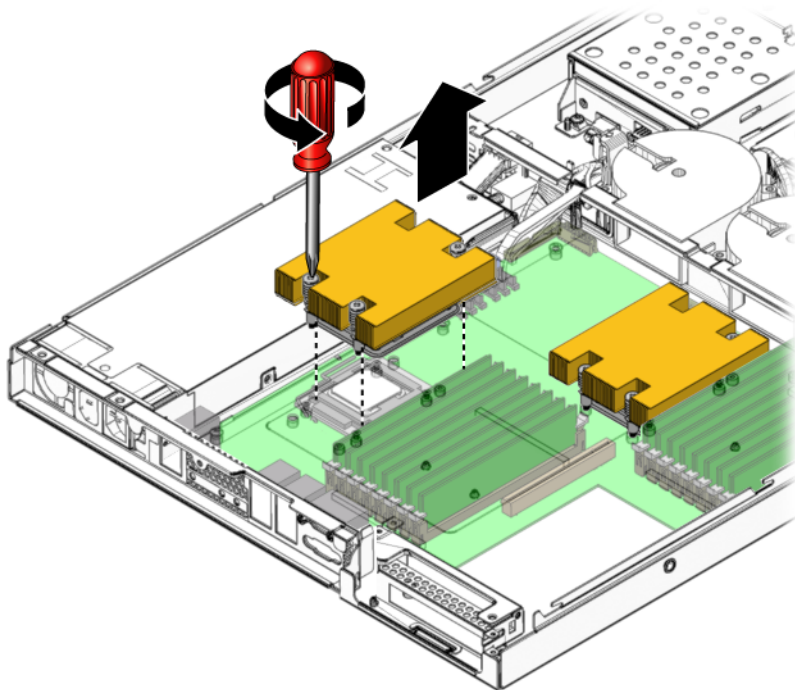

FIGURE 4-29 Removing the Heatsink
2. **Unfasten the four screws securing the heatsink to the board (see FIGURE 4-29).**